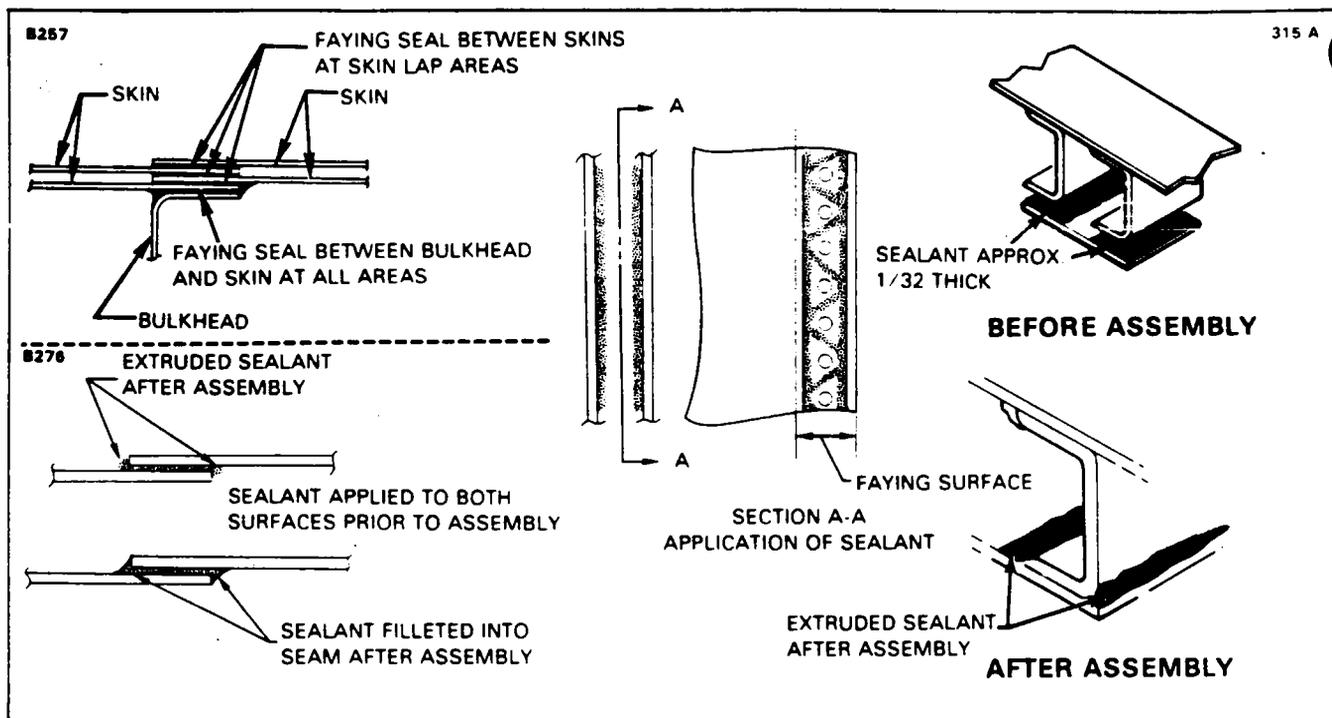

Figure 51-13. Faying Surface Seal
**SEALING FAYING SURFACES. (Refer to Figure 51-13.)**